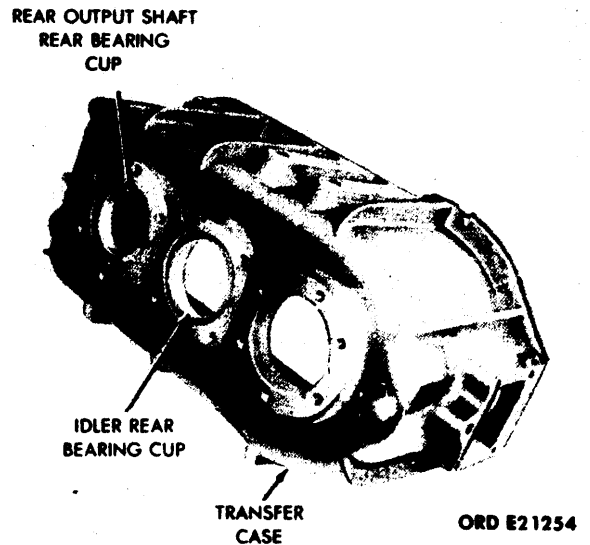

Figure 4-44. Transfer Case — Disassembly.
Press the idler shaft rear bearing cup and rear output shaft rear bearing cup from the transfer case (fig. 4-44), using a suitable remover and replacer. Refer to table 2, items 5 and 6.
- b. Transfer case (fig. 4-44).